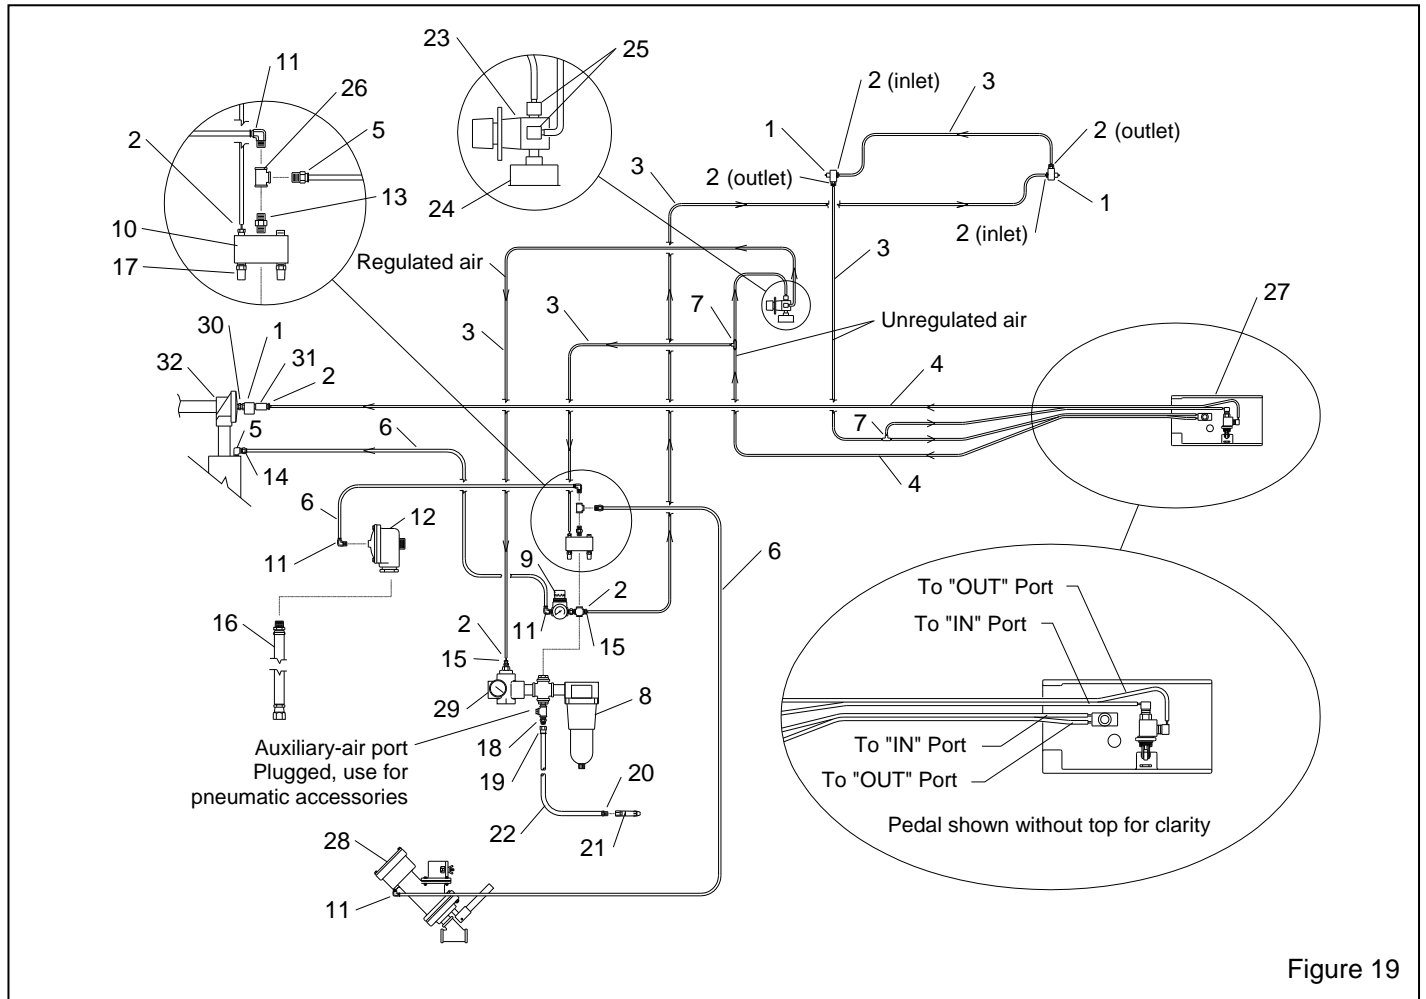

Figure 19
9.6 Plumbing and Control Line Assembly, Figure 19